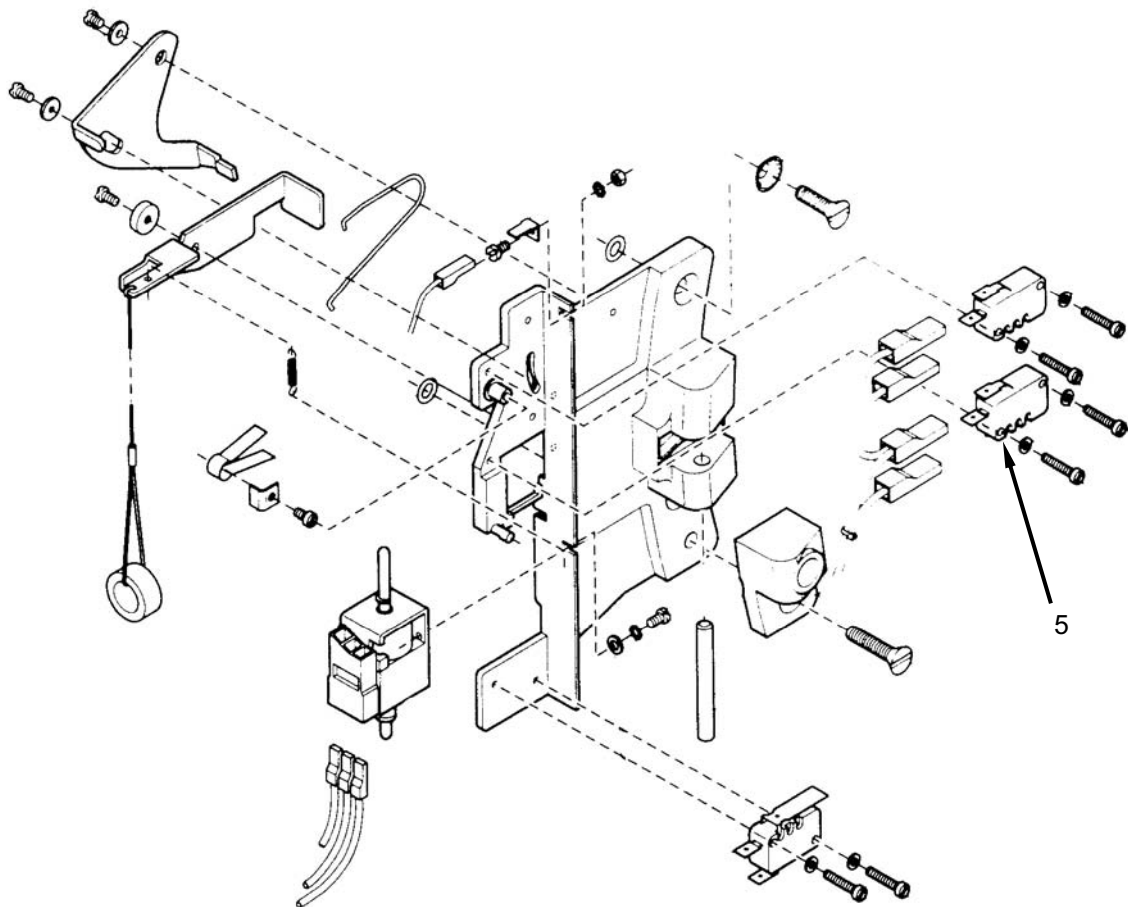

Figure 9. Replace the Door Locked Switch.
2. Cut the wire ties (**Figure 9, Item 1**) retaining switch wiring to the washer frame. There may be one or two wire ties.
4. Remove screws retaining door strike assembly (**Figure 9, Item 2**) and remove door strike assembly.
5. Tag and disconnect wiring from lock switch (**Figure 9, Item 5**).
6. Remove screws retaining switch (**Figure 9, Item 5**) to door strike assembly (**Figure 9, Item 1**) and remove switch.
7. Install replacement switch (**Figure 9, Item 5**) onto door strike assembly (**Figure 9, Item 2**) and retain with screws.
8. Connect wiring to replacement switch (**Figure 9, Item 5**) as tagged.
9. Install door strike assembly (**Figure 9, Item 2**) and retain with screws.
10. Retain wiring with wire tie (**Figure 9, Item 1**).